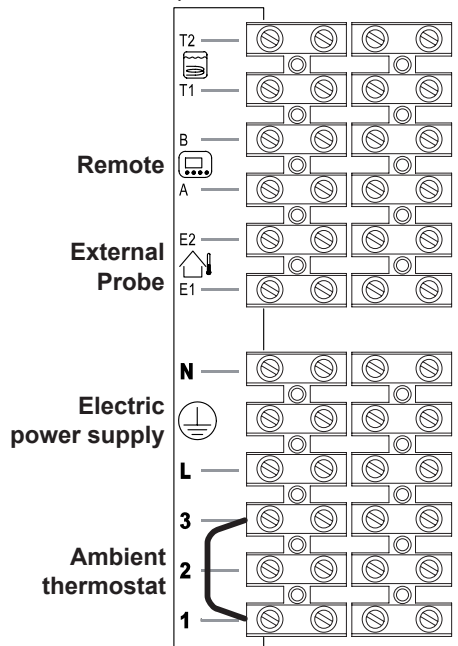

Fig. 6.26
Use the clamps indicated in Fig. 6.26 to connect the external probe.
Use the clamps indicated in Fig. 6.26 to connect the remote.
**Do not remove the electric jumper connected on the ambient thermostat terminal block between “1 and 3” Fig. 6.26.**